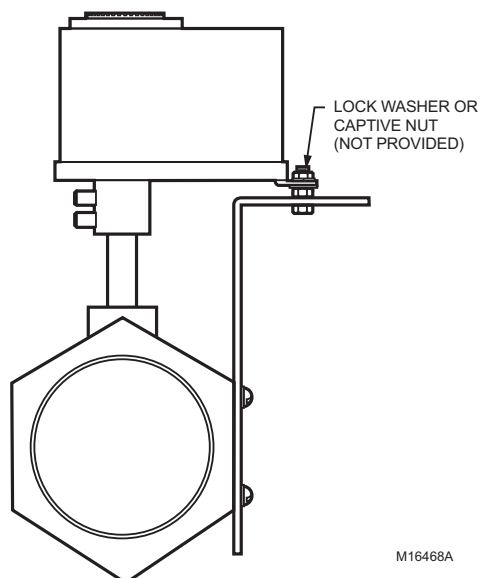

Fig. 4. Mounting ML7999C with mounting bracket accessory.
4. Install the mounting bracket accessory (not included), if needed. See Fig. 4.